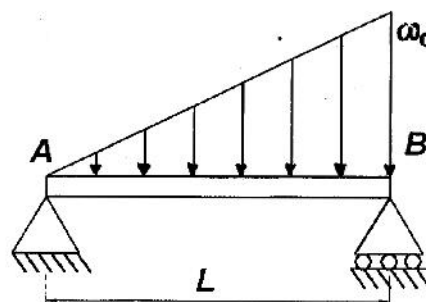

Fig. Q5a
- (a) For the simply supported prismatic beam AB (Fig. Q5a) subjected to uniformly varying load of maximum intensity w_0 , derive the equation of the elastic curve. Also find the maximum deflection.